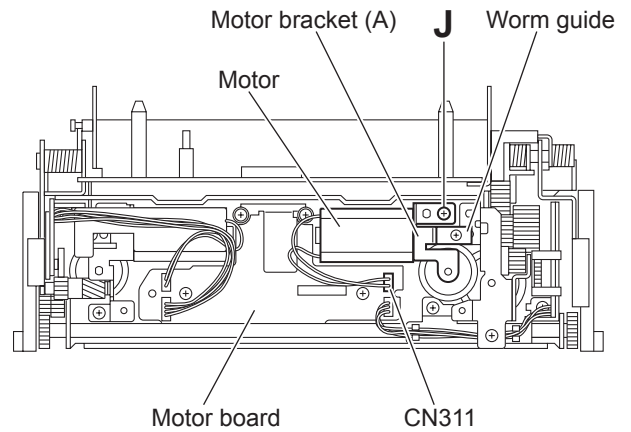

Fig.17
3.2.6 Removing the second wheel and R.L.S. gear (See Figs.17 to 24)
- (1) Disconnect the wire from the connector CN311 on the motor board. (See Fig.17.)
- (2) Remove the screw **J** attaching the motor bracket (A). (See Fig.17.)
- (3) Take out the motor bracket (A), worm guide and motor together. (See Fig.17.)